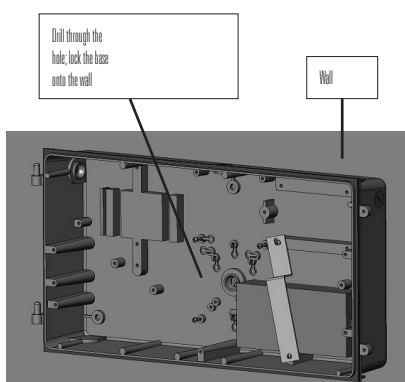

Figure 1
3. Line up the back plate in desired location and mount securely. (Two gaskets provided for weather-tight seal between template and junction box.) (Figure 1)